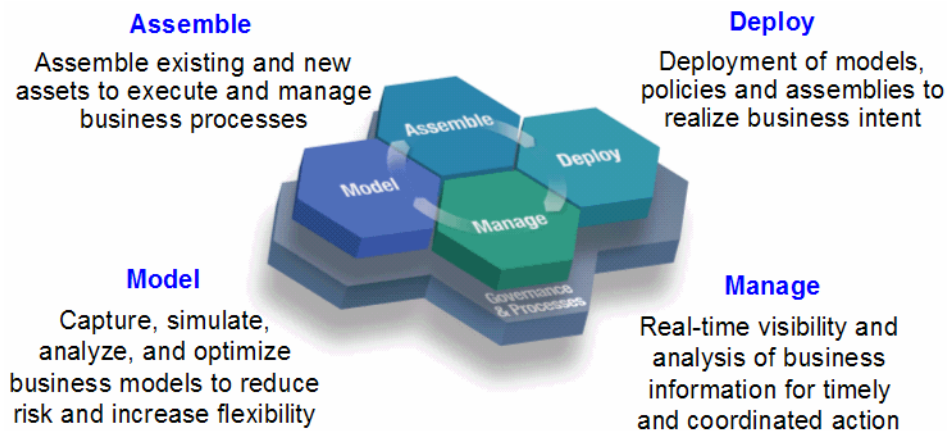

Figure 1 Business Innovation and Optimization lifecycle
- ▶ Managing the executing systems (Figure 1)